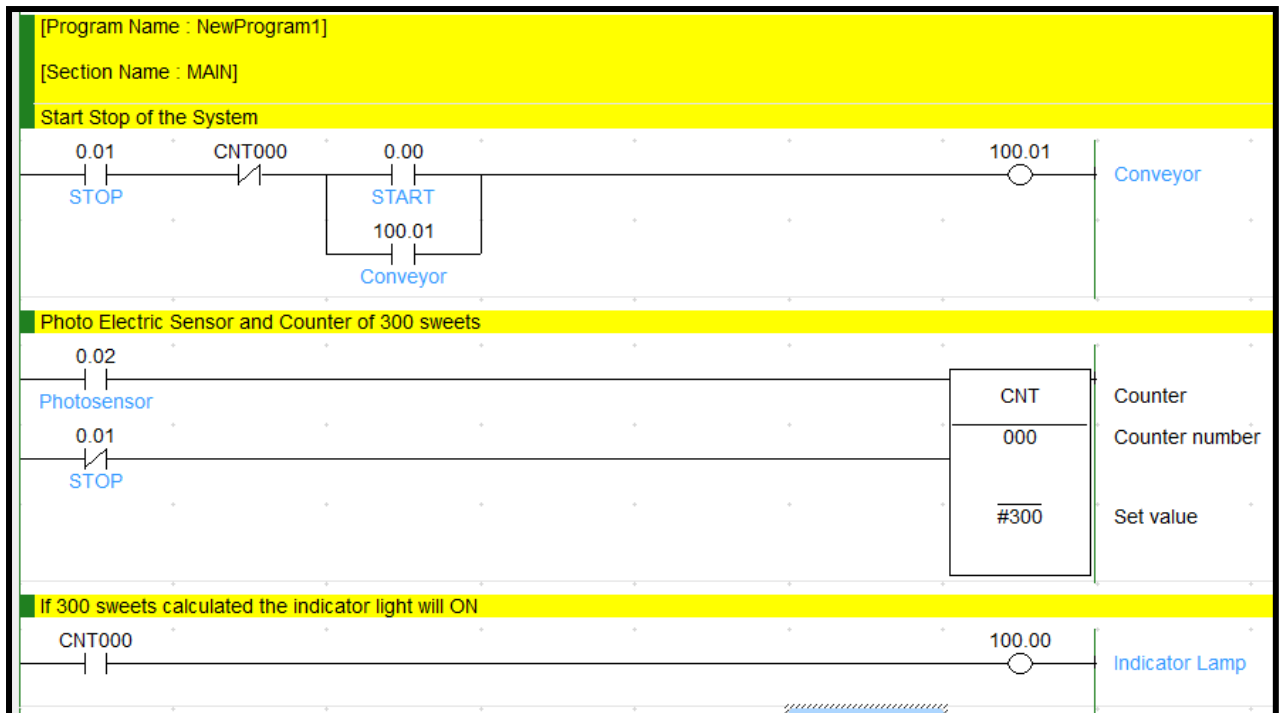

Figure 6: Ladder Diagram of the system using Counter
In **Figure 5**, a photoelectric sensor is installed in the middle of the conveyor. This sensor will calculate the amount of bottles passing through the conveyor. Previous an instruction called COUNTER (CNT) is used in the ladder program. For upgrading purposes, the counter needs to be replacing with an arithmetic instruction. The old program is as in **Figure 6** below.
- (a) Convert the ladder diagram in **Figure 6** to Instruction List (4 marks)